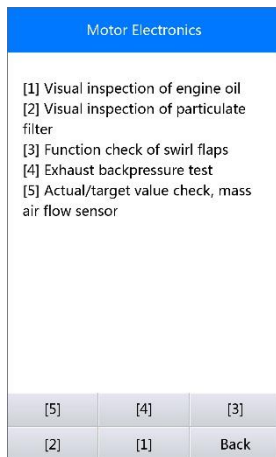

Figure 5-32 Sample Particle Filter Tests
- 1) Select **[1]** and **OK** button from the particle filter test menu (Figure 5-32).
- 1) Select **[2]** and **OK** button from the particle filter test menu (Figure 5-32).
- 1) Select **[3]** and **OK** button from the particle filter test menu (*Figure 5-32*).
- 1) Select **[4]** and **OK** button from the particle filter test menu (*Figure 5-32*).
1) Select **[5]** and **OK** button from the particle filter test menu (*Figure 5-32*).